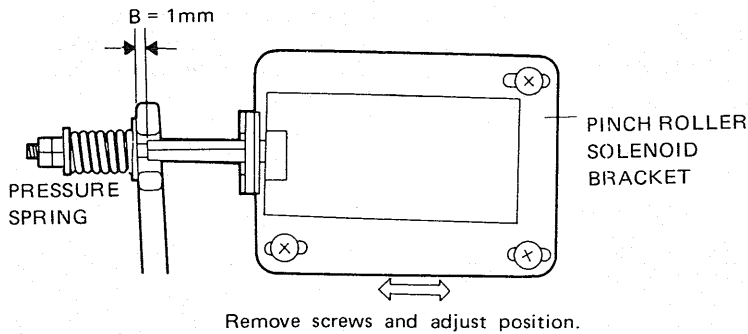

Fig. 22
6.4 PINCH ROLLER PRESSURE ADJUSTMENT (Figs. 22, 23)
3. Make sure that the gap B shown in Fig. 22 is 1mm.